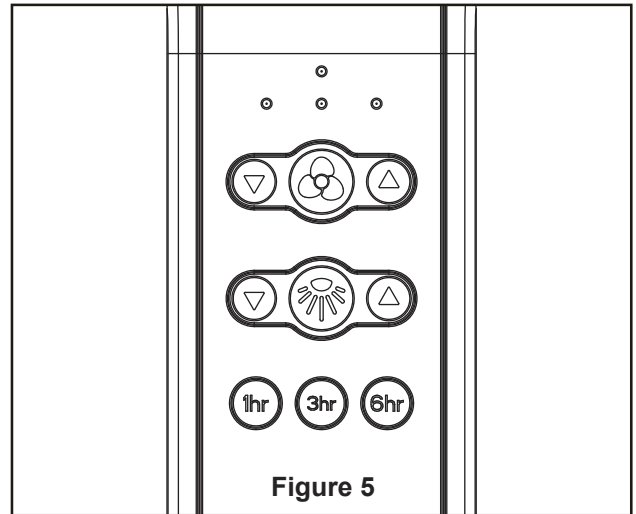

Figure 5
4. After connections have been made, the wires should be spread apart with the grounded conductor and the equipment-grounding conductor on one side of the outlet box and the ungrounded conductor on the other side of the outlet box, then turn leads upward and carefully push leads into the outlet box, with the white and green leads to one side of the box and the black leads to the other side. (Figure 5)
- 5. Assemble the LED assembly to the light kit using the two key slots and replace the third screw and securely tighten all three screws. (Figure 5)
### 5. Remote functions: (Figure 5)